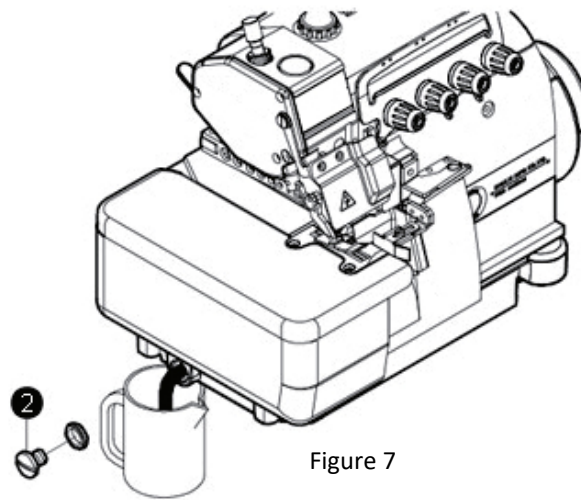

Figure 7
When changing the oil or simply draining the oil out of the machine, loosen screw (2) (Fig. 7). When removing the oil drain plug, make sure not to lose the drain plug washer.